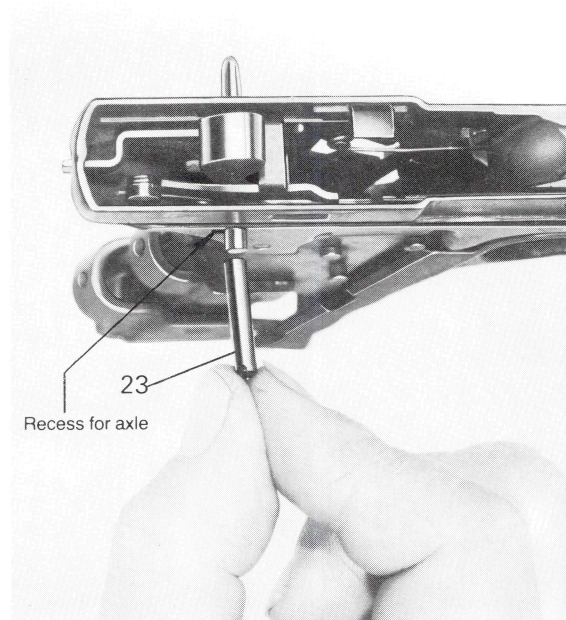

Fig. 45.
- Align the drill holes in the disconnecter and the hammer as well as the recess for the hammer axle (23), and retain in position by inserting assembly pin dia. 3.85 x 35 from the right-hand side of the receiver.
- Introduce the hammer axle (23) from the right, taking care that the projection on the axle engages in the recess provided for it in the receiver (Fig. 45).